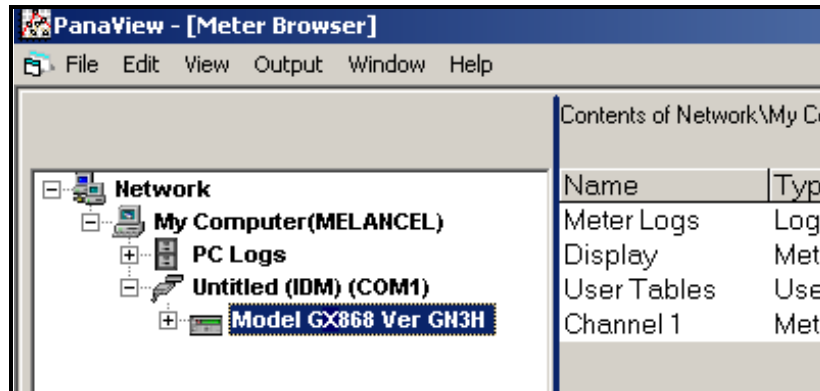

Figure C-6: Updated Network Tree
If the initialization is successful, the Meter Browser shows a listing similar to Figure C-6 below.
1. Highlight the meter (as shown in Figure C-6 on page C-6).